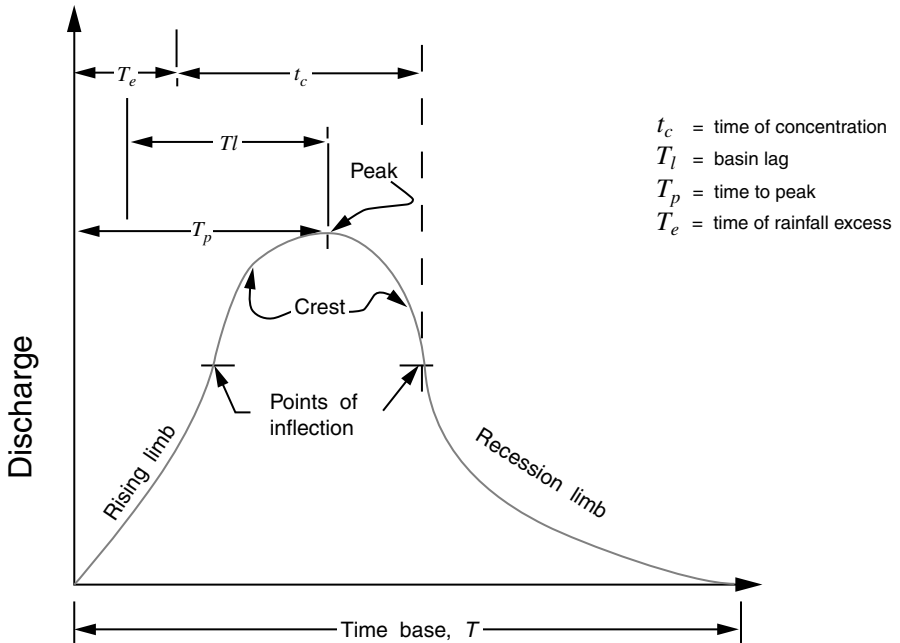

FIGURE H-3 Hydrograph times.
**Hydrograph crest** The top part of a storm hydrograph, between the two inflection points on the rising and recession limbs. See Figure H-3.
**Hydrograph peak** The highest point on a hydrograph or the maximum discharge caused by a storm; it usually occurs during the time of concentration, when all the areas of the drainage basin are contributing runoff to the station or point under consideration. See Figure H-3.
**Hydrograph time base** The duration of the runoff period, as measured on the time axis of the hydrograph. *See also hydrograph times; unit hydrograph. See Figure H-3.*
**Hydrograph times** Various time-related parameters used in hydrologic studies, some of which are shown on Figure H-3: basin lag or lag time ( $T_l$ ), hydrograph rise time or hydrograph time to peak ( $T_p$ ), hydrograph time base ( $T$ ), interevent time, time of concentration ( $t_c$ ), time of equilibrium, time of rainfall excess ( $T_e$ ).
where  $T_e$  is the time of rainfall excess, and  $T_l$  is the drainage lag, which is approximately 60% of the time of concentration. *See Figure H-3.*